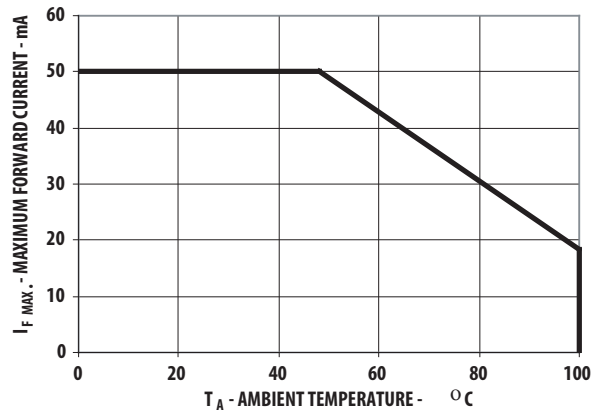
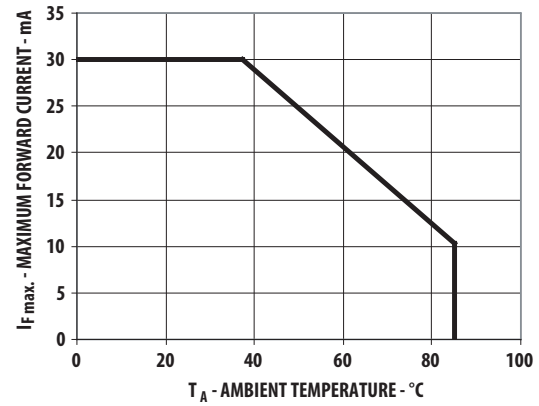

Figure 2. Maximum Forward Current vs Ambient Temperature
Figure 8. Maximum Forward Current vs Ambient Temperature
1. Derate linearly as shown in Figure 2 and Figure 8.